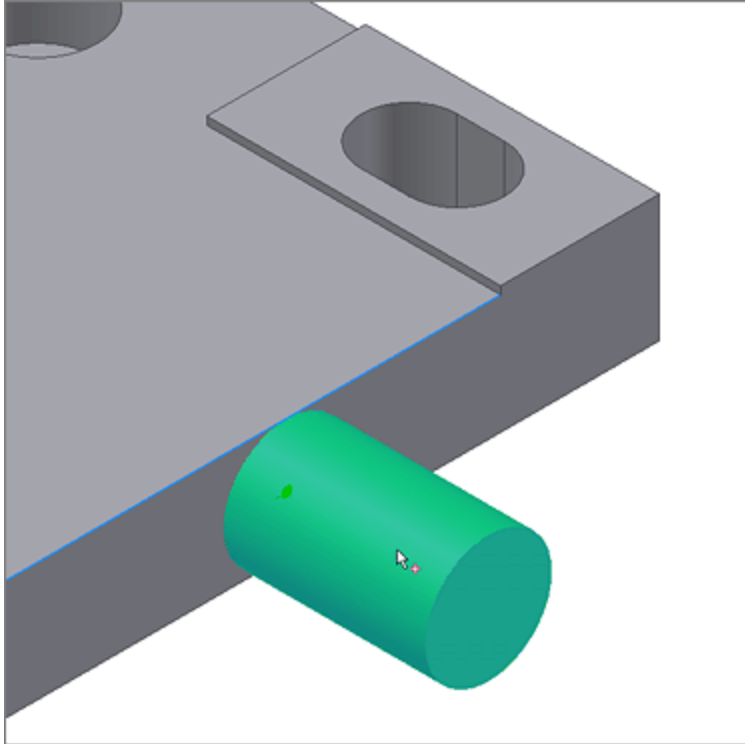

Figure 5. Features automatically snap to existing edges as you move them about.
2. Now you can select and drag the feature to a new location. As you drag the feature, it will highlight and snap to existing edges to aid in proper placement (figure 5).